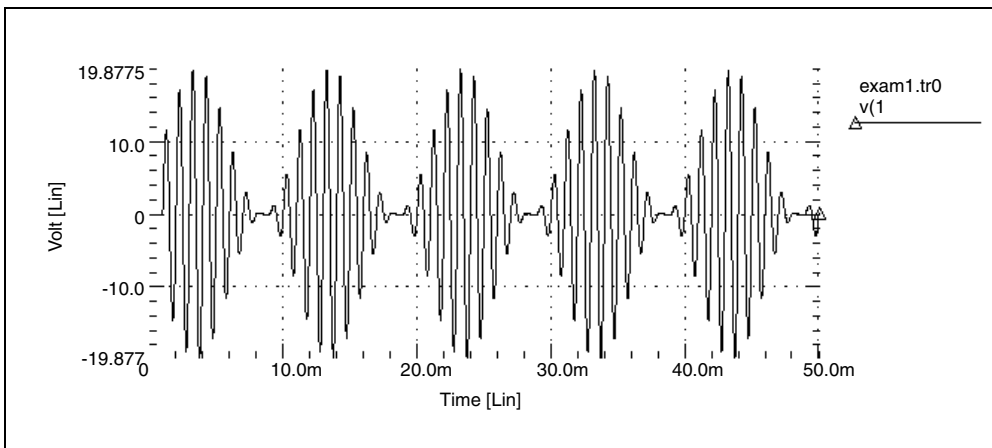
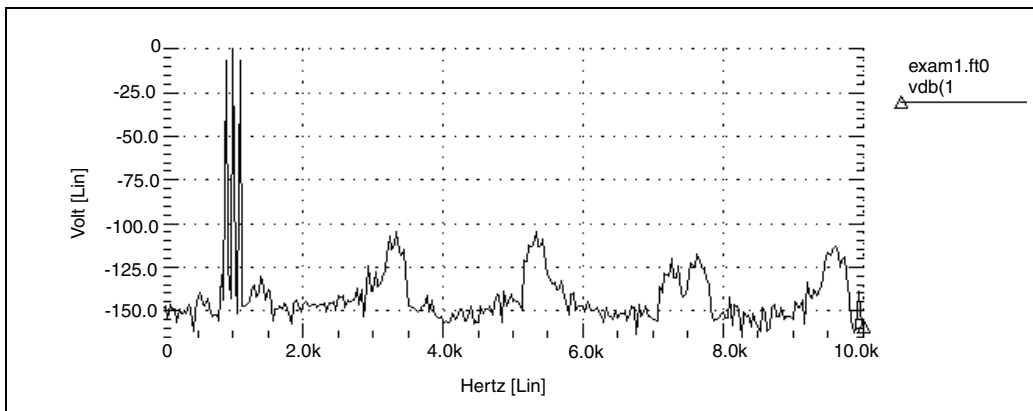

Figure 54 AM Modulation
Figure 55 AM Modulation Spectrum
Figure 54 and Figure 55 on page 499 display the results.
- Figure 54 shows the time-domain curve for node 1.
- Figure 55 shows the frequency-domain components, for the magnitude of node 1.